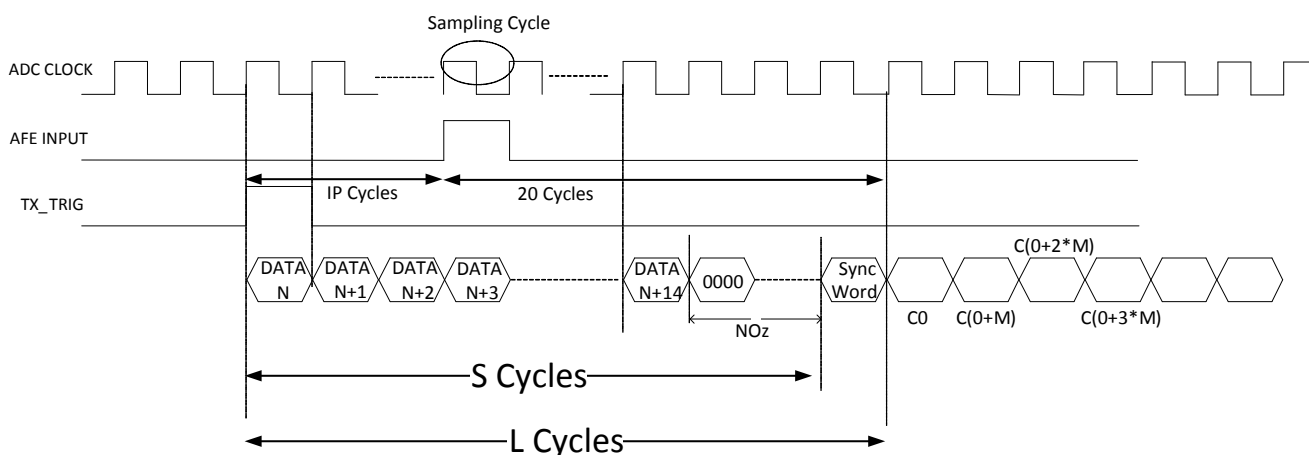

Figure 96. Measured Latency Timing at Any M
Figure 96 shows a generic timing diagram. The number of zeros comes before the sync word is equal to Z. The sync word comes after S number of cycles, impulse response starts coming after L number of cycles, and input impulse is given after IP cycles with respect to TX_TRIG signal. Therefore, for different decimation factor (M), values of these numbers are listed in Table 24 and Figure 96.